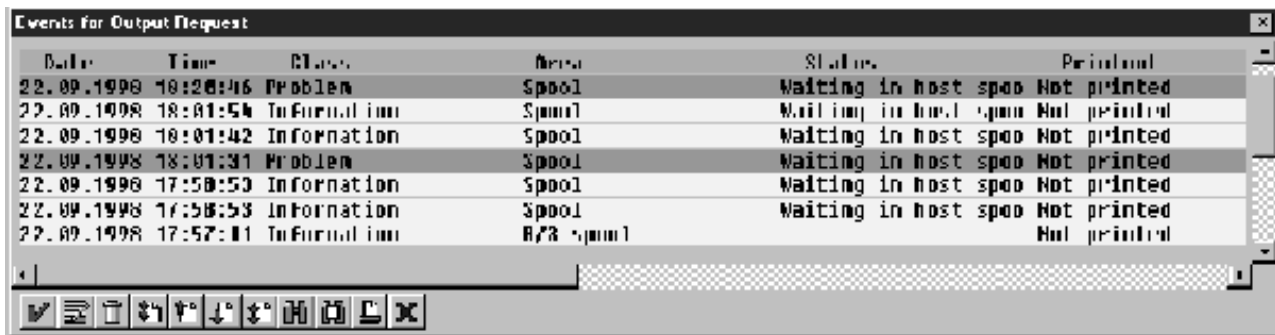
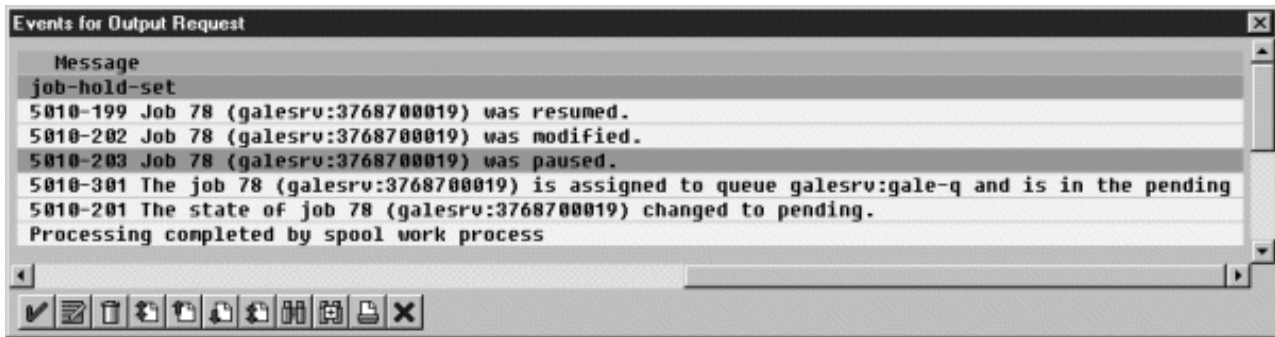

Figure 16. Events for Output Requests field, view 1
Figure 17. Events for Output Requests field, view 2
3. Click on the **Events** button on the **Status Description** window to get the **Events for Output Requests** window. From the **Events for Output Requests** pop-up window (see Figure 16 and Figure 17 on page 48), you can view all the events concerning this job.
This **Events for Output Requests** pop-up window is displayed twice to show (1) the right side of the window with the date, time, and current status of the job (Figure 16), and (2) the left-side of the window with its message text (Figure 17 on page 48).